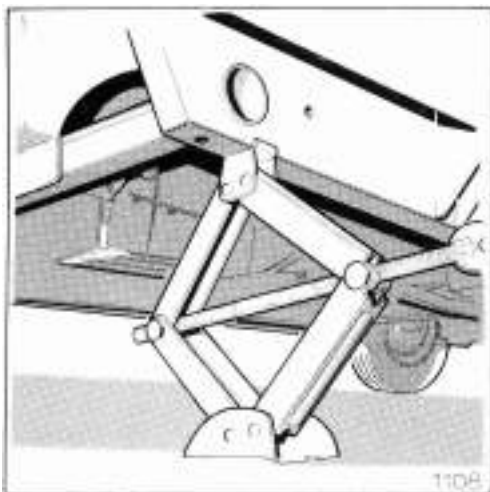

Figure 39 Jacking position - front
- 1 Jack up the vehicle until the front wheel is clear of the ground. (**Figure 39**).
The front wheel can be raised by positioning the jack at the front end of either main longitudinal chassis member. It must not be 'Positioned under the tubular radius arm. (Figure 39).